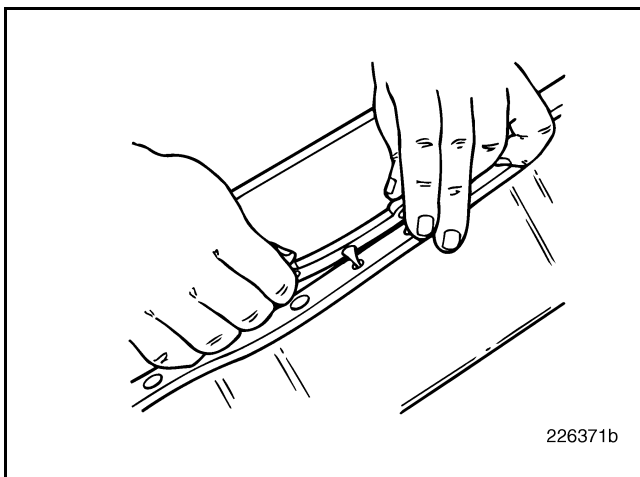

Figure 272 — Locating Cone Alignment
3. Beginning at the center of the pan at one of the rectangular tabs, align the rubber locating cones with corresponding holes in the pan rails (Figure 272).